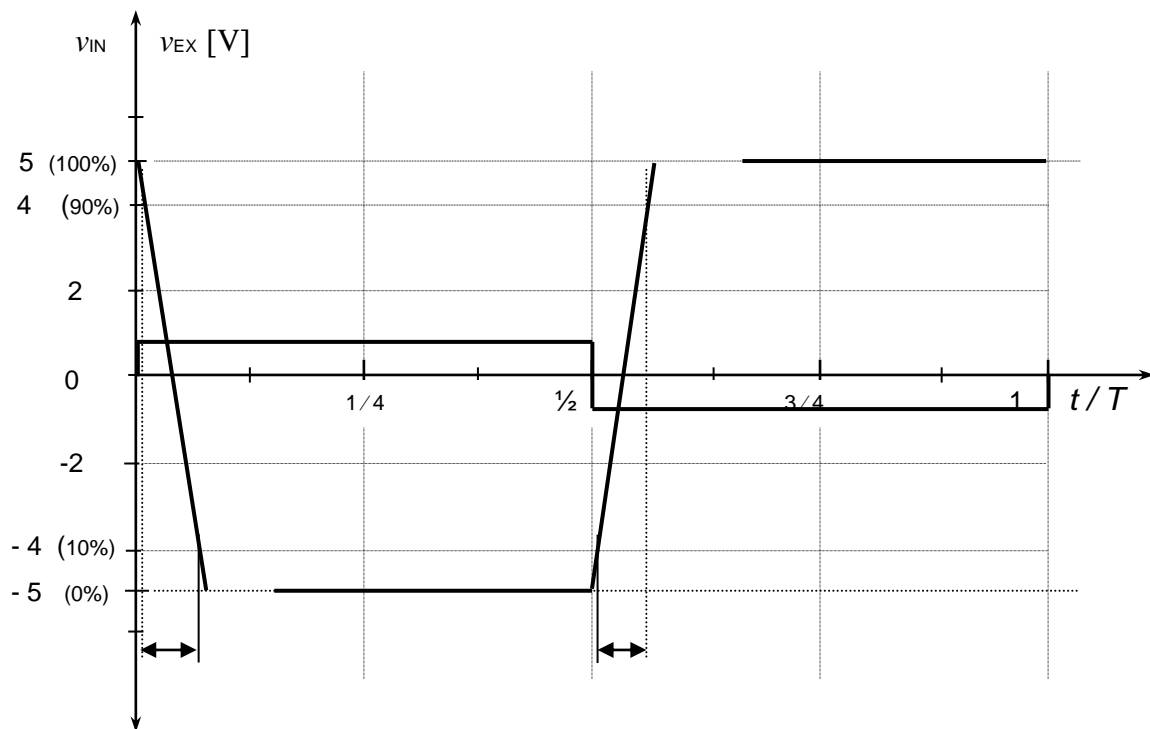

Fig. 3 Inverting OA input and output voltage curves for slew rate measurement.
1.2. Adjust the input square wave signal v_{IN} on the base unit at the maximum frequency . Measure the durations of rise t_r and fall t_f times . Note the rise time t_r , fall time t_f and add the missing parts to output voltage curve in Fig. 3